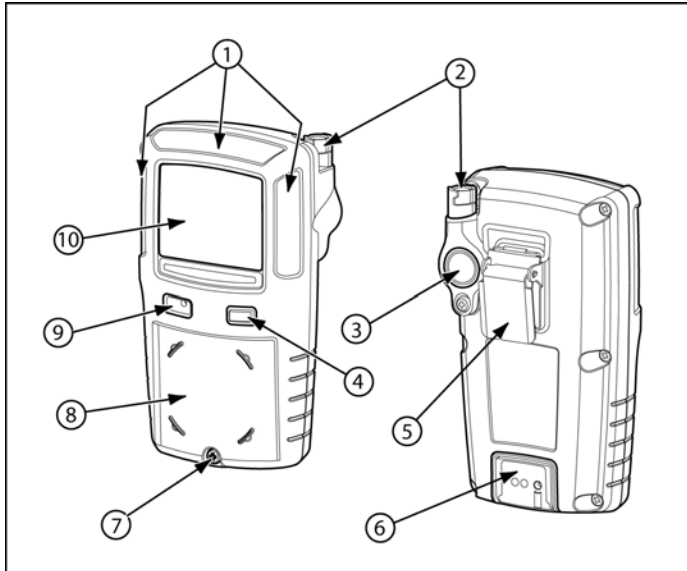

Figure 1. Parts of the GasAlertMax XT II
- Figure 1, and Table 3, describe the detector's components.